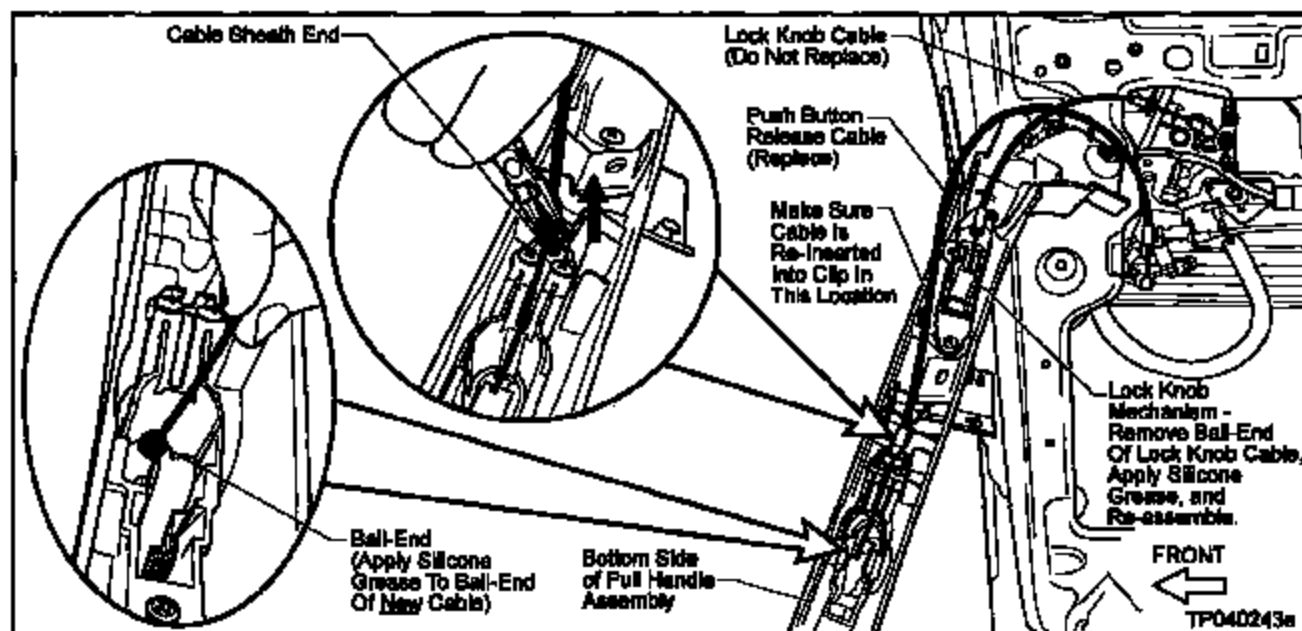

Figure J22
- a. Remove the Cable Sheath End from the Pull Handle Assembly using needle-nose pliers (see Figure J22).
- b. Remove the Ball-End of the Cable from the Push Button Assembly (see Figure J22).
- Make sure the Cable is re-inserted into the Clip next to the Lock Knob Mechanism (see Figure J22).
- Apply Silicone Grease to the Ball-End of the new cable (see Figure J22).
25. Remove the Ball-End of the Lock Knob Cable, apply Silicone Grease, and re-assemble (see Figure J22).